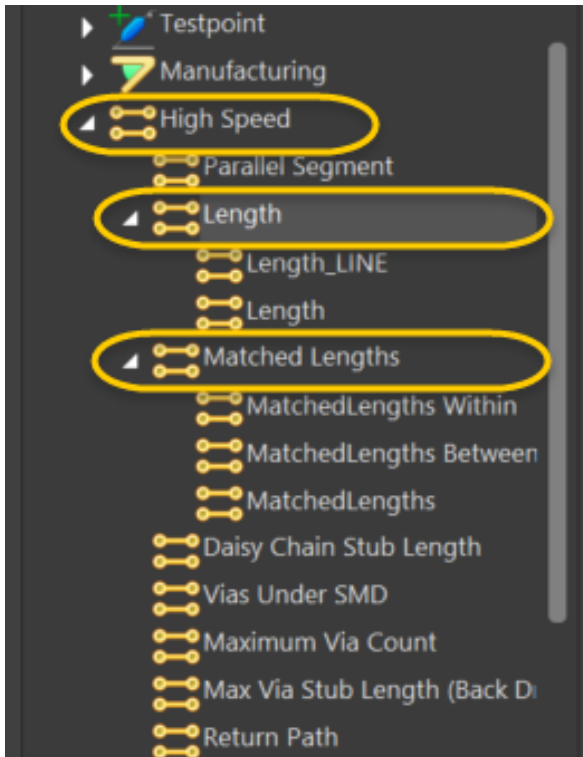

Figure 1. High-Speed Design Rules
5. Scroll down and expand the *High Speed* rule category as shown in Figure 1.